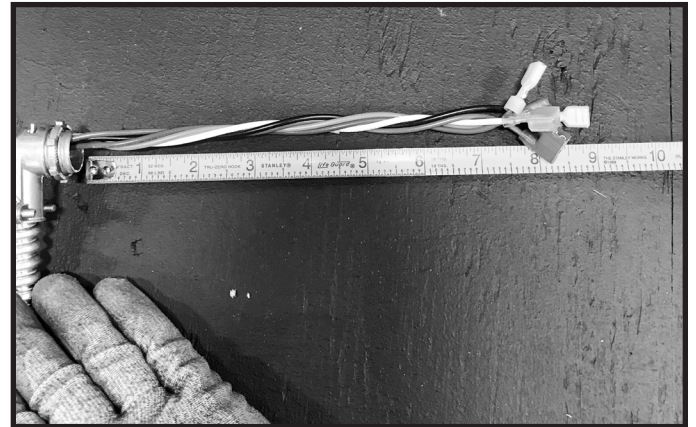

Figure 3.9 Sufficient Wire Extending Through Bracket
4. Ensure there are 8-9 inches of wire extending out of the 90° PVI wire harness fitting. See Figure 3.9.